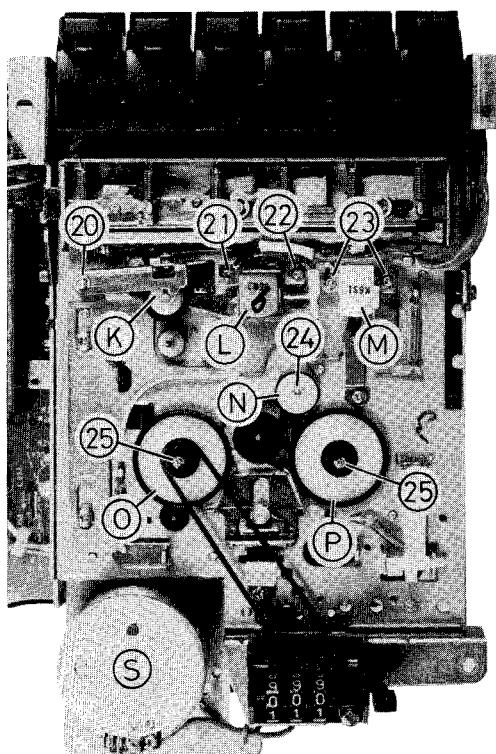

Fig. 8
1. Take off volume and tone control knobs (C).
2. Pull up the function switch knob (D) by pressing the arrow positions.
3. Disconnect 4 speaker cords : Black (E) & Red (F) of right speaker and Blue (G) & White (H) of left speaker, and the connector (I).
4. Remove 4 screws (9)~(12):SBSB3010Z.
Pinch Roller Ass'y (K) (Refer to Fig.8)
Play/record Head (L) (Refer to Fig. 8)
Erase Head (M) (Refer to Fig. 8)
Revol Idler (N) (Refer to Fig. 8)
Take-up (O) and Supply (P) Reel Disk (Refer to Fig.8)